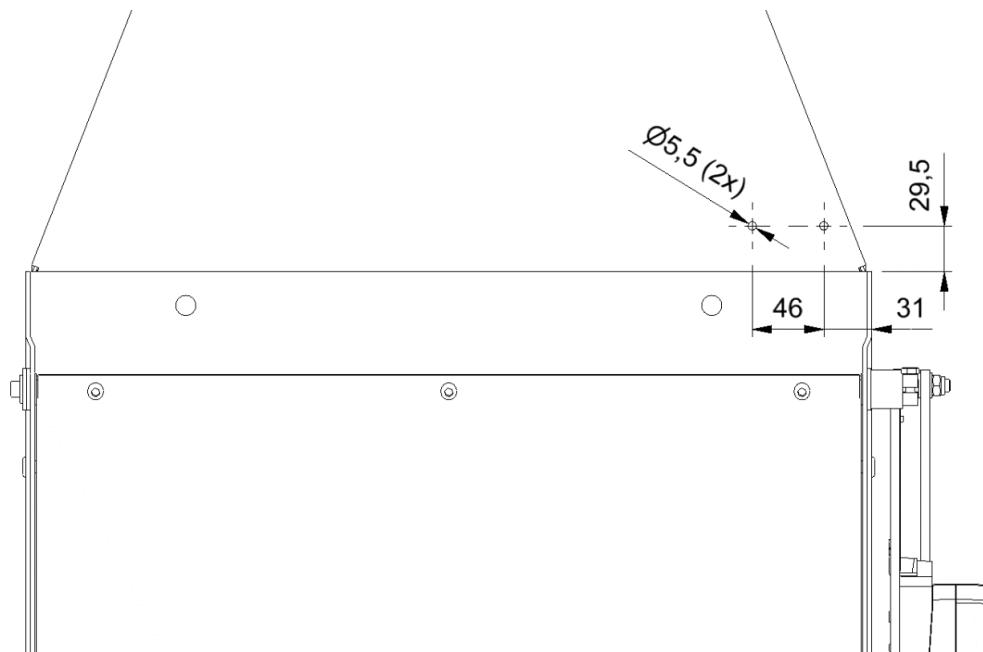
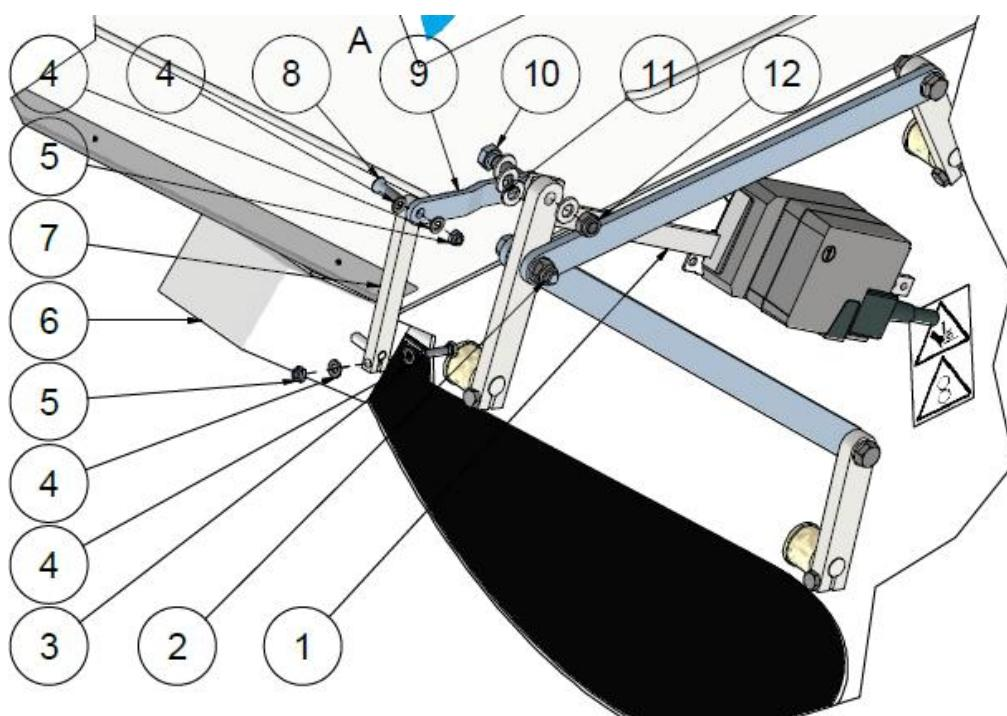

Figure 12 Measurements of holes for valve position sensor
Figure 13 Installing the valve position sensor
- Installation (see Figure 12 and Figure 13):
- o Drill two holes with 5.5mm diameter in the Airmix housing (see Figure 12);
- o Close the valves / set the valves to horizontal, and keep in place by securing a pivot point (2);
- o Mount the attachment bracket (9) behind the rail of the actuator (1) with the M8x35 bolt (10), M8 washers (11) and M8 lock nut (12) (replace the M8x30 bolt);
- o Attach the lever (7) to the end of the spindle of the valve position sensor with the M5x20 bolt (3), M5 washer (4) and M5 lock nut (5). Make sure that the countersunk hole points towards the Airmix housing.
- o Mount the lever to the attachment bracket with the M5x25 countersunk bolt (8), M5 washers (4) and M5 lock nut (5);
- o Release the secured pivot point (2).